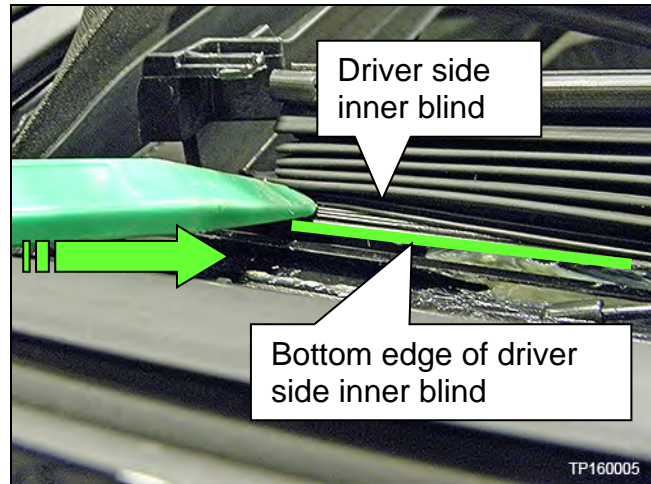

Figure 15
- d. Carefully detach the inner blinds from the moonroof frame by pushing toward the inside of the vehicle along the bottom edge of inner blind (Figure 15).